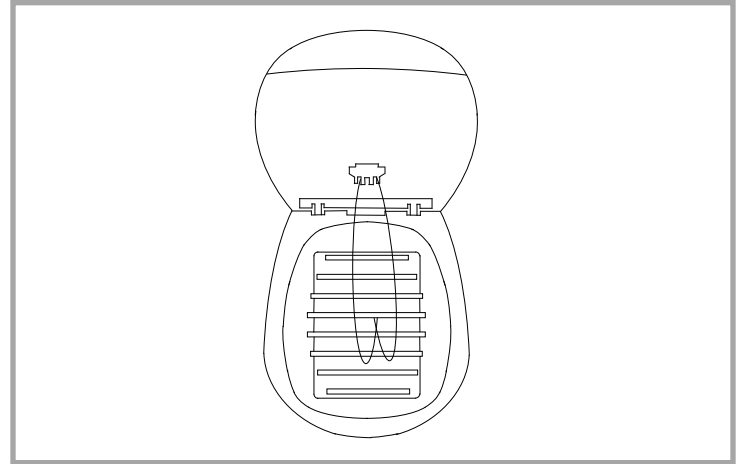

Figure 4: Attach the DuraStreet power leads.
Step 4: Attach The DuraStreet Power Leads (Figure 4)